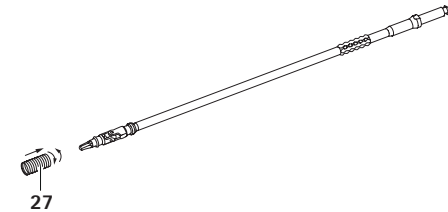
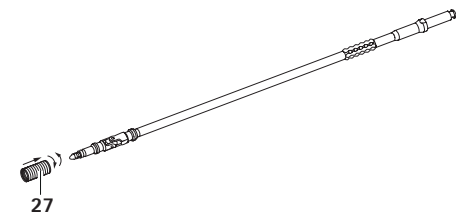
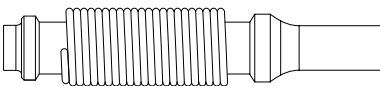

Fig. 10 Assembling ME014R
Fig. 11 Assembling ME018R
Fig. 12 Correct spring position
- ▶ Slide the spring **27** over the distal end until it is completely covering the u-joint, see Fig. 10 and see Fig. 11. The ends of the spring should sit within the flange on the shaft and the flange on the distal head, see Fig. 12.